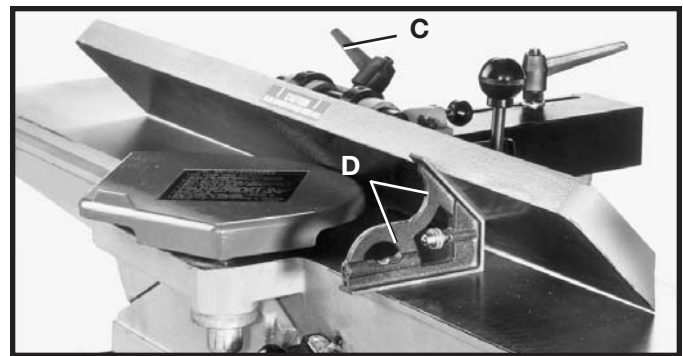

Fig. 53
8. Loosen lockhandle (C) Fig. 53, and tilt fence inward as far as possible, as shown, and tighten lockhandle (C).
9. Using a square (D) Fig. 53, check to see if the fence is at a 45 degree inward angle to the table, as shown.